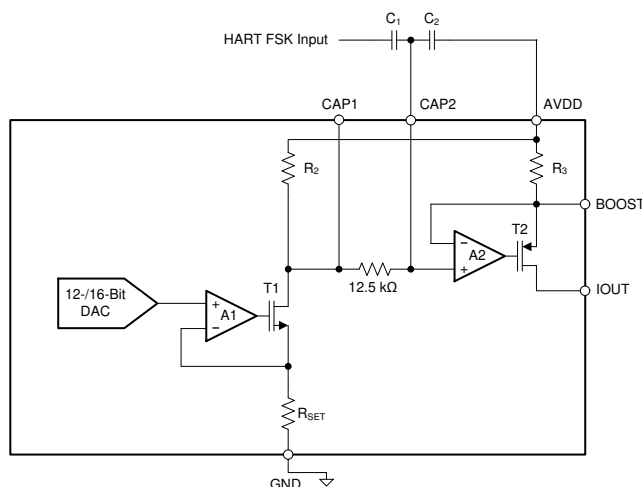

Figure 9-3. Implementing HART on IOUT Using the CAP2 Pin
The first method of implementing HART is to couple the signal through the CAP2 pin, as conceptualized in Figure 9-3. Note that this pin is only available in the 40-pin VQFN package.
In Figure 9-3, R_3 is nominally 40 Ω , and R_2 is dependent on the current output range (set by the RANGE bits) as described below:
1. As is seen in Figure 9-3, CAP2 is directly connected to the input of the final IOUT amplifier. Any noise or unwanted ac signal routed near the CAP1 and/or CAP2 pins could capacitively couple onto internal nodes and affect IOUT. Therefore, with the QFN package, it is important to avoid routing any digital or HART signal trace over the CAP1 and CAP2 traces.